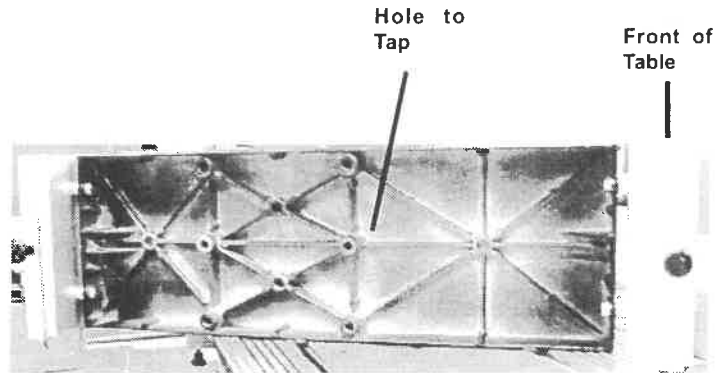

Figure 1
2. Using the enclosed Tap(2) and Tap wrench (3), tap the middle hole on your floating extension table. Tap approximately 3/4 of an inch. See Figure 1.